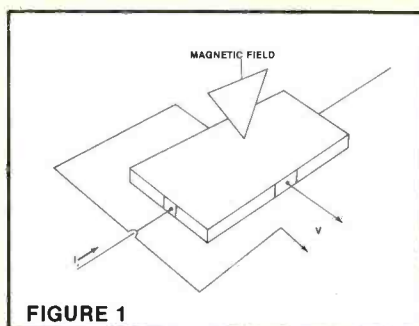
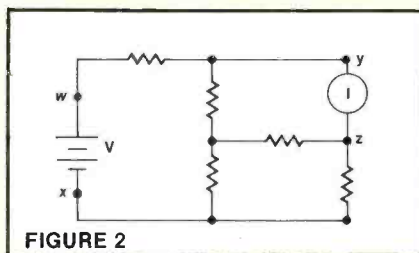

FIGURE 1
FIGURE 2
1. For the system of Figure 1, an increase in the strength of the magnetic field causes an increase in the generated voltage (V). This is an application of:
- (A) Lenz's Law.
- (B) Field Effect.
- (C) Hall Effect.
- (D) Thompson Effect.
- (A) This is a correct interpretation of the ohms-per-volt rating.
- (B) The ohms-per-volt rating cannot be used this way.
3. In the circuit of Figure 2, the meter indicates a current of value I. Assume there is no internal resistance in the battery. If the battery and meter are interchanged, the meter will indicate:
- (A) a higher current.
- (B) a lower current.
- (C) the same amount of current.
- (D) an amount of current that cannot be determined from the information given.